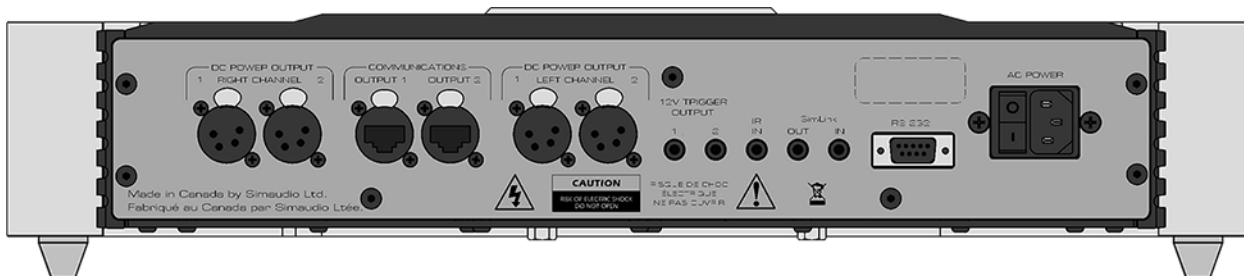

Figure 4: Rear panel of the MOON 850P Controller
The rear panel of the **MOON 850P** controller will look similar to Figure 4 (above). It is equipped with full-function bi-directional RS-232 port control and status for custom integration or automation. This is located in the upper-middle section and uses a DB9 connector. Immediately to the right of the RS-232 port are two (2) "SimLink" connectors labeled "in" and "out" on 1/8" mini jacks. Please refer to the next section entitled SimLink for more details. Your **MOON 850P** preamplifier has a 1/8" mini jack input for use with aftermarket infrared remote control receivers. The "IR in" connector is located on the upper right section of the rear panel. Across the lower section you will find the 3 pairs of output connectors that are used for powering the preamplifier chassis. To the right of these connectors are two 12 Volt trigger outputs, each on a 1/8" mini-jack.